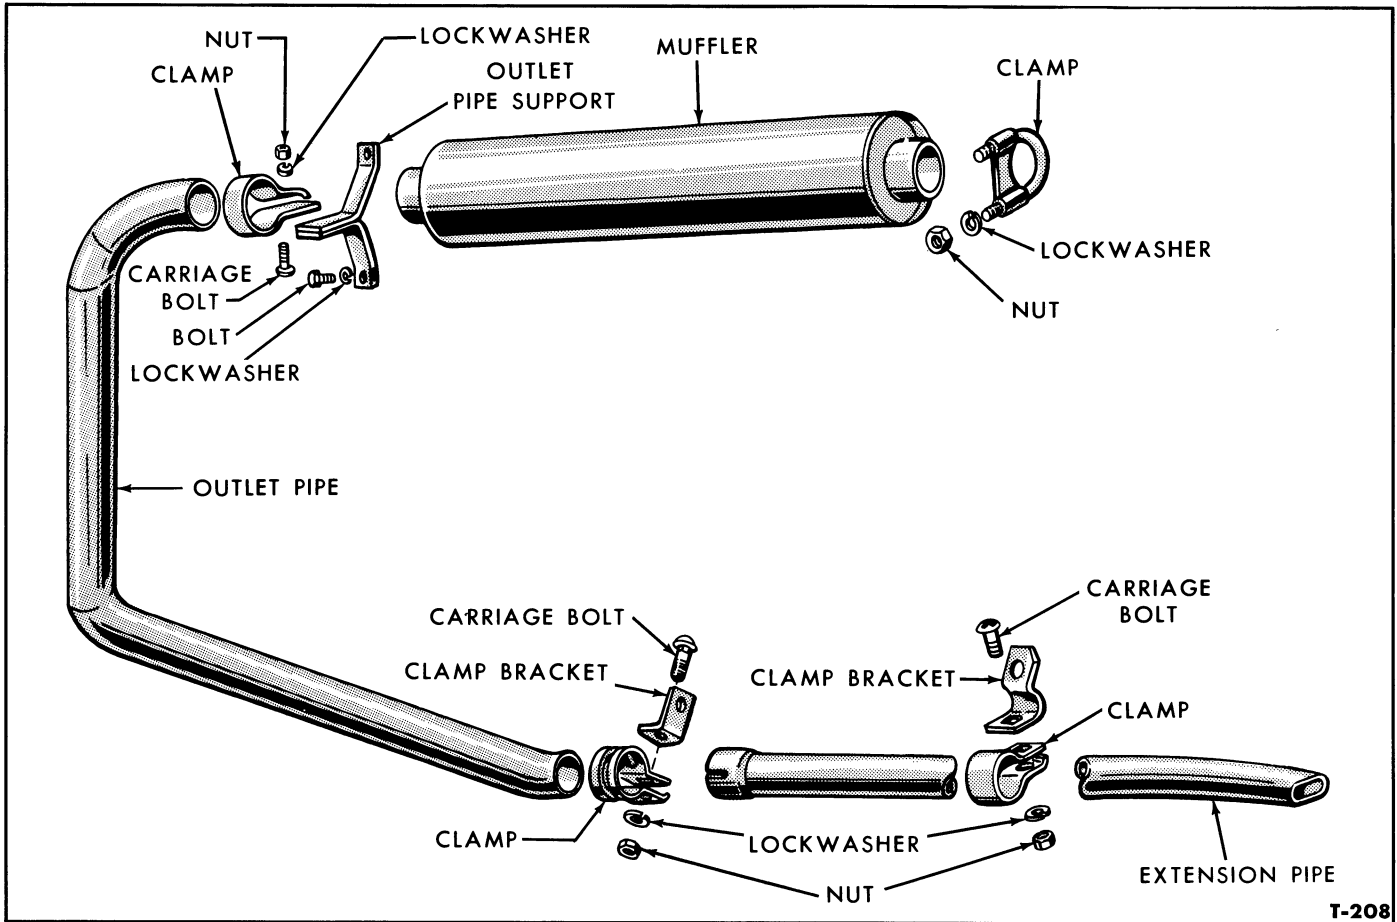

Figure 9—Horizontal Exhaust System
The intake and exhaust manifolds are an integral unit on Ford Tractors with gasoline or LP-Gas engines. The manifold and exhaust systems are shown in Figures 9 and 10. A vertical or horizontal exhaust system is available on all models. All mufflers mount directly on the exhaust manifold for convenience in replacing.
1. Remove the bolt that attaches the muffler outlet pipe extension bracket and clamp to the center housing, see Figure 9.
9. Slip the muffler onto the muffler inlet flange elbow, Figure 9. Secure the muffler to the elbow with the rear clamp.